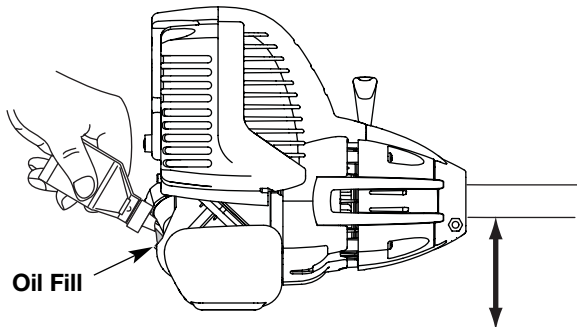

Fig. 6
- Place the unit on a flat level surface (Fig. 6).
- Pour the entire bottle of oil into the oil fill hole (Fig. 6).